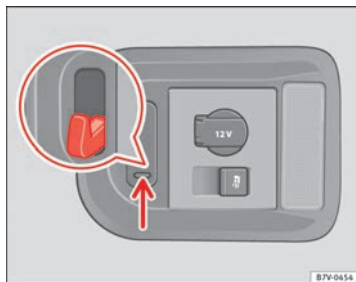

Fig. 100 In the luggage compartment: retaining hooks
On the right-hand side of the luggage compartment, there are folding retaining hooks → Fig. 100 that can be used to secure light shopping bags.
- Press the retaining hooks down → Fig. 100 (arrow) and fold them.